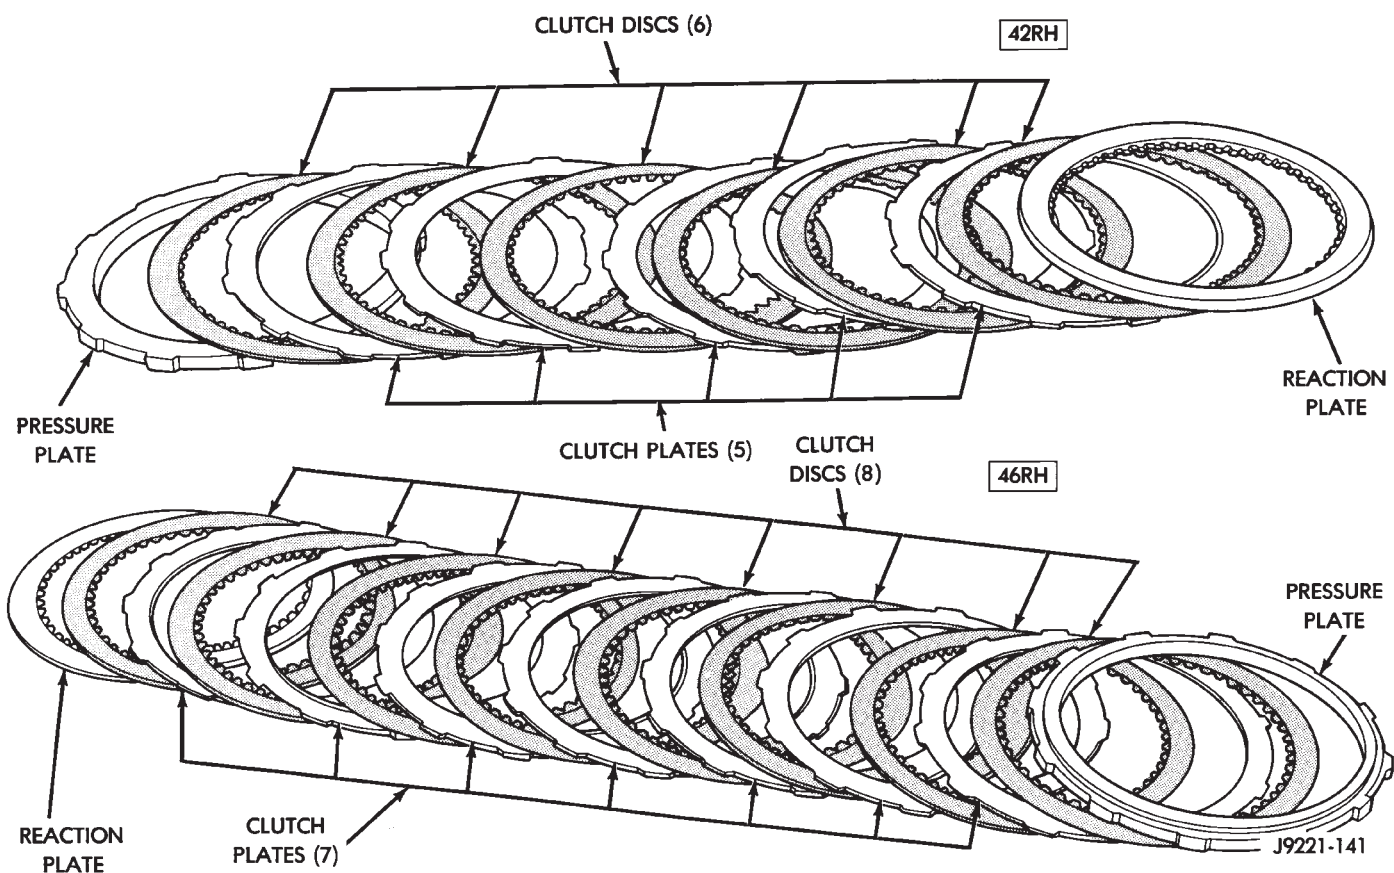

Fig. 48 Direct Clutch Pack Components
(20) Assemble direct clutch pack for installation on hub (Fig. 48).
(c) Check direct clutch pack. 8 discs and 7 steel plates are required (Fig. 48).